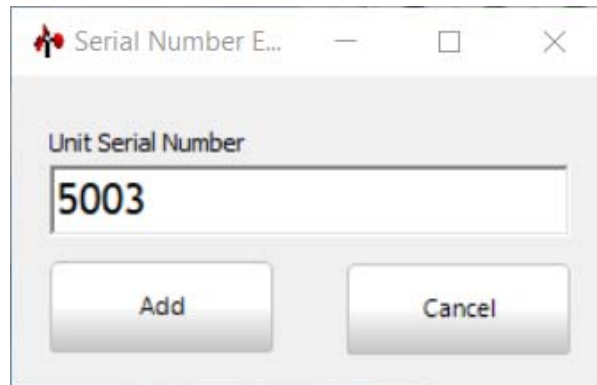

Figure 24
- Click the  button, the Serial Number entry window will be displayed (**Figure 24**)